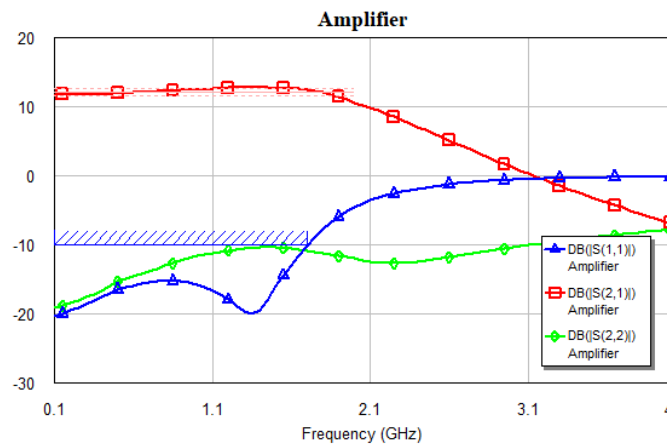

Fig. 5 S-parameters of the amplifier with matching circuits.
- An example of amplifier parameters reached is shown in Fig. 5.